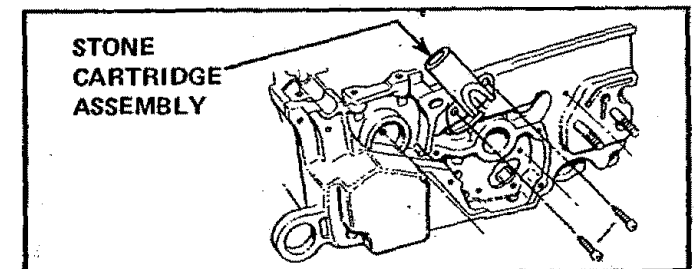

Figure 26
2. Remove the two screws which hold cartridge assembly to crankcase. Figure 26.